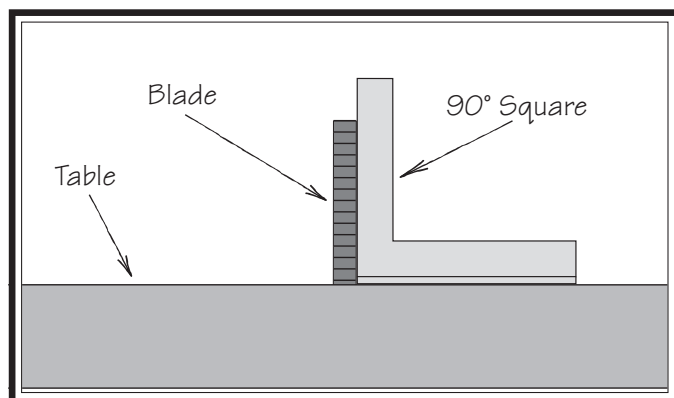

Figure 117. Checking blade at 90°.
3. Place a 90° square against table and blade so it contacts blade evenly from bottom to top, as illustrated in **Figure 117**. Make sure a blade tooth does not obstruct placement of square.